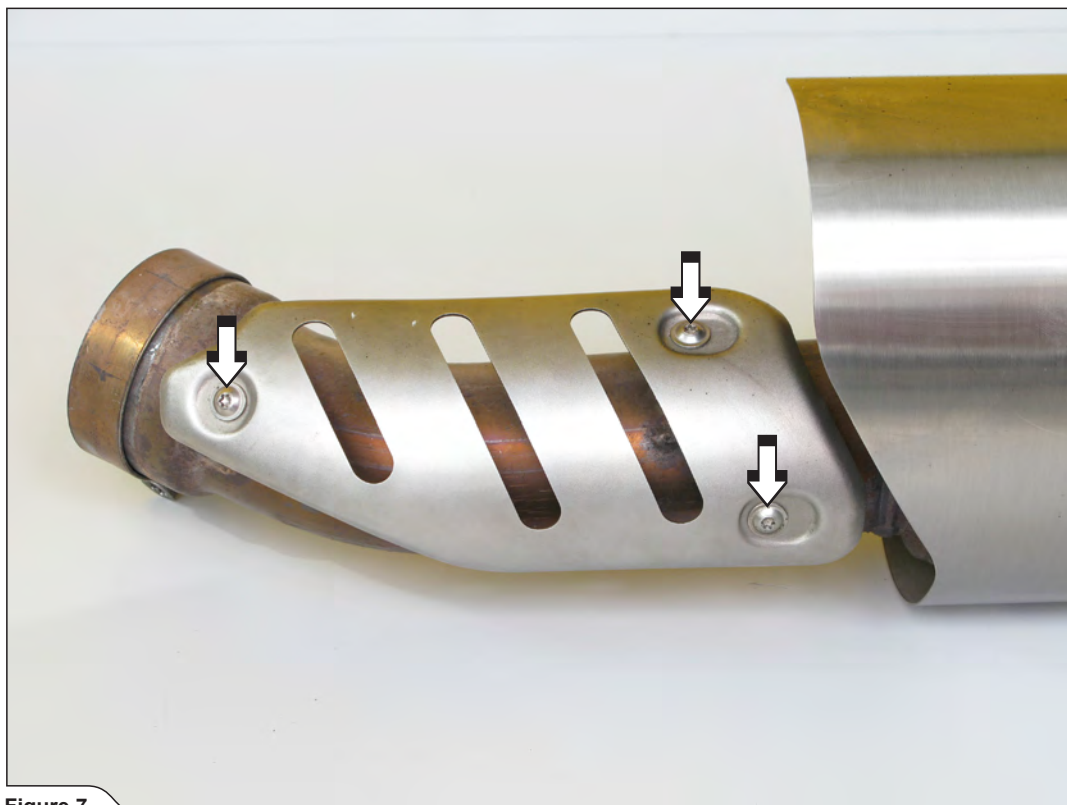

Figure 7
8. Unscrew the marked bolts and remove the stock heat shield of the stock link pipe (Figure 7).